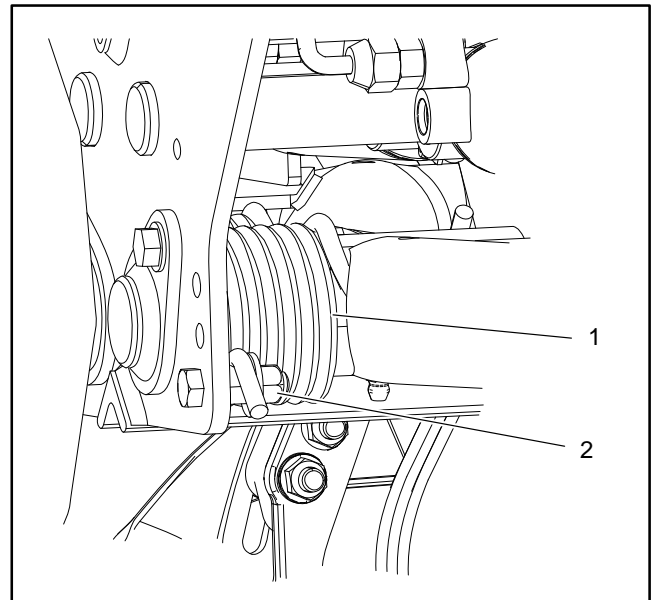

Figure 14
5. Note the position of the spring actuator prior to removal for proper assembly. Insert a tube or similar object onto the straight end of the counterbalance spring. Lift the spring end up and remove the spring actuator (cap screw, spacer, washer, and lock nut) (Fig. 14). Relieve all tension from the counterbalance spring.
3. Insert a tube or similar object onto the straight end of the counterbalance spring. Lift the spring end up and install the spring actuator (cap screw, spacer, washer, and lock nut) (Fig. 14). Rest end of counterbalance spring on spring actuator.